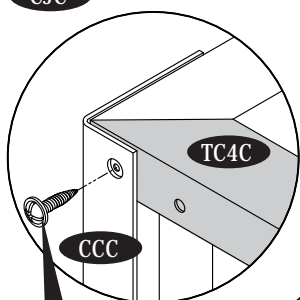

Fig.3
38. Inserted the center joint (CJC) in between the top 'U' channel (TC3C & TC4C) and wall panel. See fig.1. Line up the pre drilled holes and secure with (S1) screw. See fig.2. Line up the pre drilled holes on the corner column (CCC) and top 'U' channel and secure with (S1) screws. See fig.3&4.